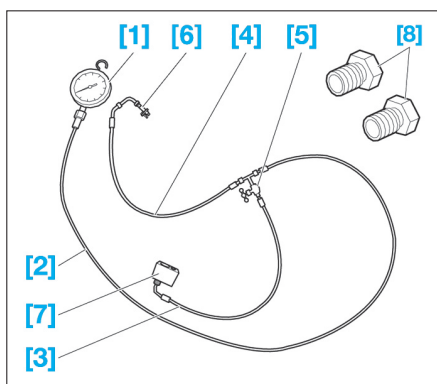

Fig. 23
- Ensemble de contrôle [1], [2], [3], [4], [5], [6], [7] et [8] (Coffret ref. 0710.ZY) (Fig.23).